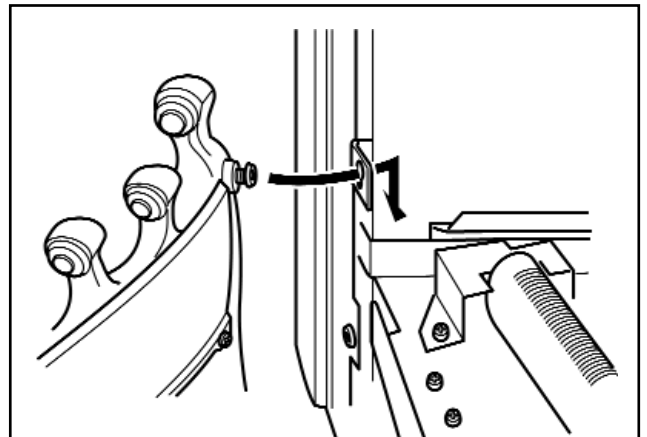

Figure 41. Firefront casting (Casting may differ from that shown).
14.2.1 Fit the fire front casting to the fascia. Locate the two screw heads at the rear top corners of the firefront casting through the keyhole slots at the inner sides of the fascia. If the screw heads do not project enough or project too far, the screws can be adjusted. Lower the casting so that it rests on the hearth (See figure 41).
14.5.2 Locate the two screw heads through the keyhole slots at the inner sides of the surround. If the screw heads do not project enough or project too far, the screws can be adjusted. Lower the casting so that it rests on the hearth (See figure 41).